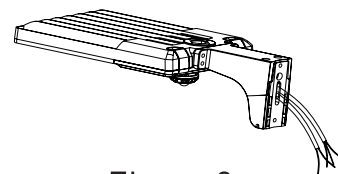

Figure 8
Step 2: Install the bracket on the fixture. (Fig. 8)